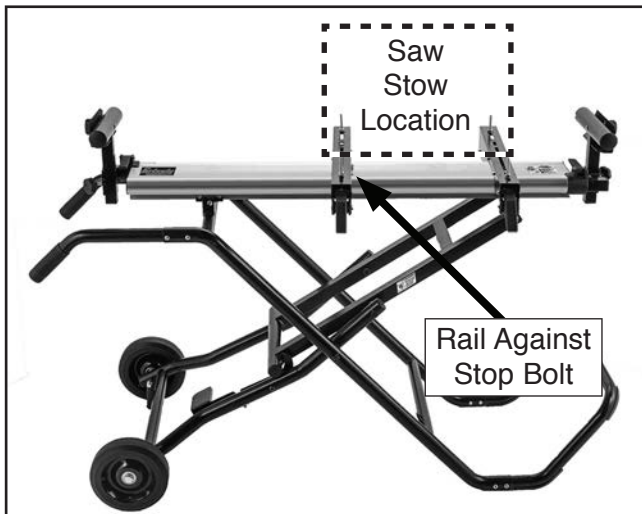

Figure 20. Saw stow location.
Before folding the miter stand for stowage, move the miter saw to the saw stow location (as far away from the wheels as possible) or until one rail contacts the stop bolt, as shown in **Figure 20**. This weight distribution gives better leverage when the stand is being folded and unfolded. In this position the stand is not as top heavy when carted on its wheels in its vertical folded position.
1. Lock saw in stow location (see **Figure 20**).